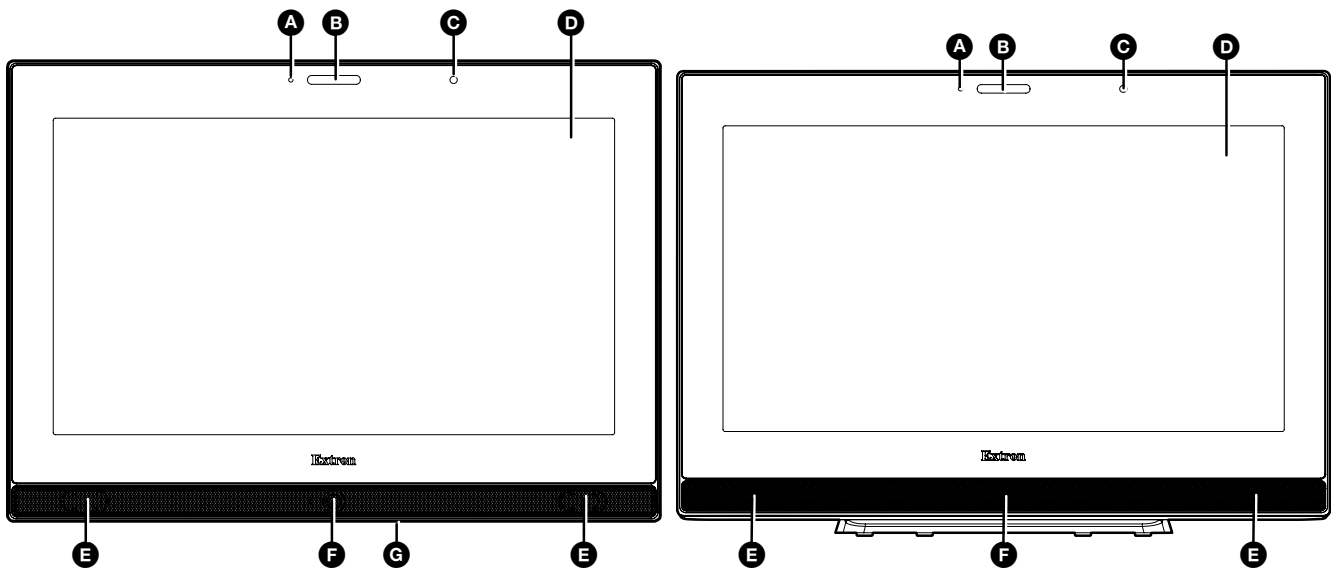

Figure 2. TLP Pro 1720MG (Left) and TLP Pro 1720TG (Right) Front Panels
Figure 2 shows the TLP Pro 1720MG and TLP Pro 1720TG front panels. The features of TLP Pro 1220MG and 1520MG models are very similar to the TLP Pro 1720MG and the features of TLP Pro 1220TG and 1520TG models are very similar to the TLP Pro 1720TG.
- E** Speakers (2)
- A Communication LED** (see figure 2 on the previous page) — shows the configuration and connection status of the touchpanel: